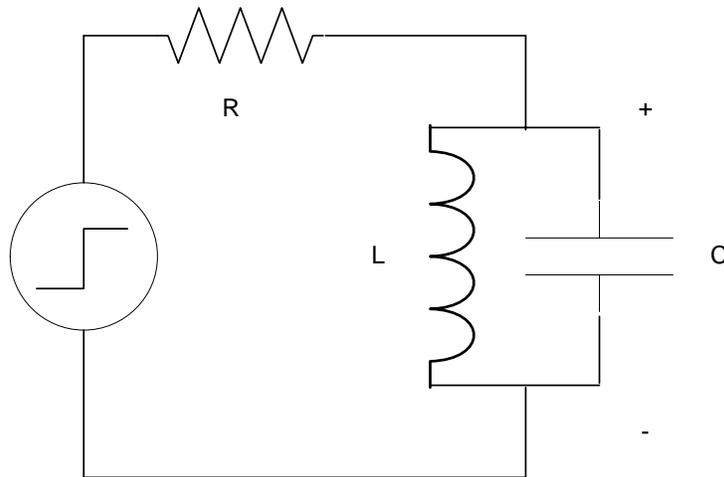

Fig. 2. The parallel RLC circuit.  $C=0.01 \mu\text{F}$ ,  $L=10 \text{ mH}$ .
2. (a) Simulate the circuit of Figure 2 in PSpice. Find the value of R resulting a critical response.